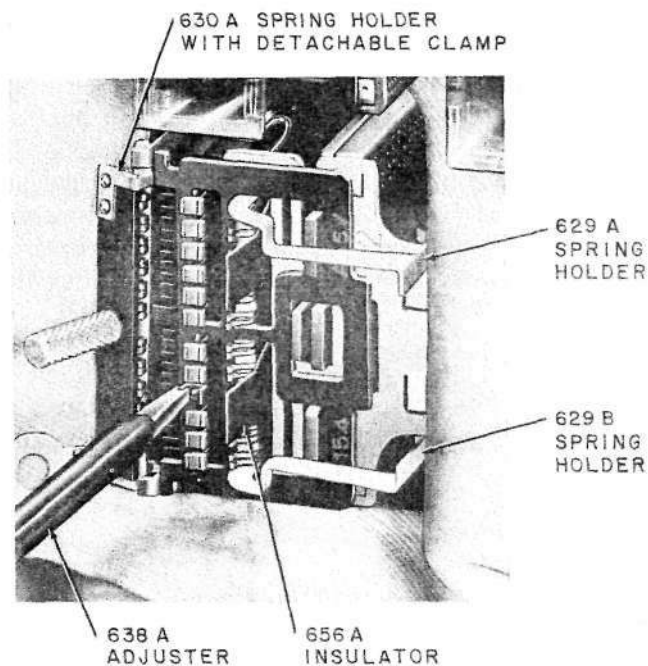

Fig. 11—Aligning Tang of Fixed Contact
4.31 *Contacts on Fixed Springs:* If the sides of the U-shaped contact welded on a fixed spring are not in line vertically with the sides of contacts on other fixed springs in the row, align the sides of the U using the 638A adjuster for the contact on all except 286-, 287-, and 288-type relays (P-10A949 contact) and the 638B adjuster for the contact on 286-, 287-, and 288-type relays (P-19A353 contact) as follows. Place the slot in the end of the 638A adjuster on the side of the U to be adjusted as shown in Fig. 11. Hold the